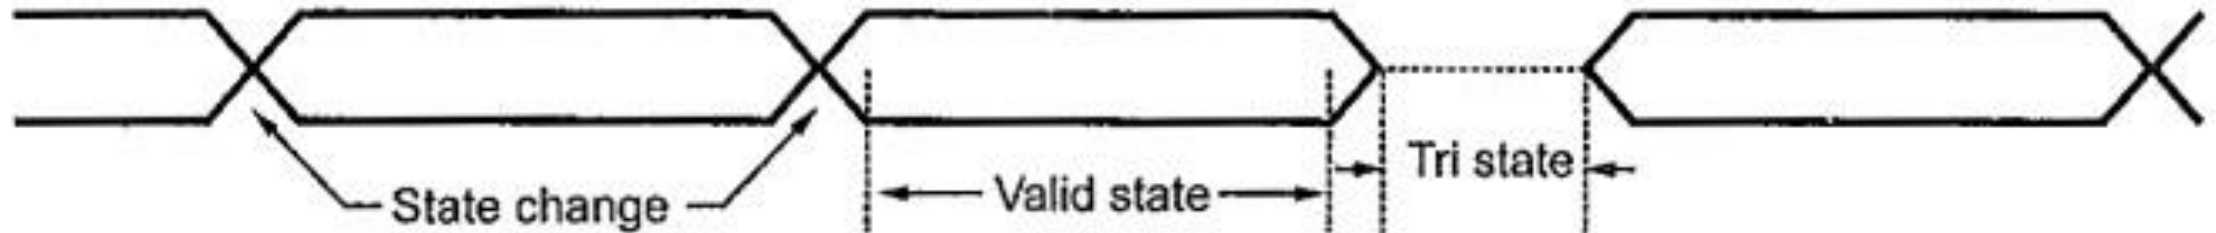

Fig. 1.7 Group of signals representation
- ❖ **Group of signals** is also called a **bus** e.g. address bus and data bus. To avoid complications in the timing diagram these signals are grouped and shown in the form of block as shown in Fig. 1.7.
- ❖ It is represented by the cross as shown the Fig. 1.7.